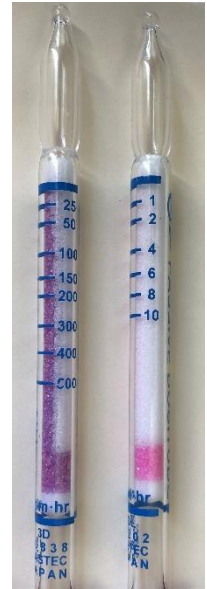

Figure 2. Gastec IG3D (left) and IG3DL (right) ammonia passive dositubes
- Ammonia Passive Dositube (*Figure 2*)